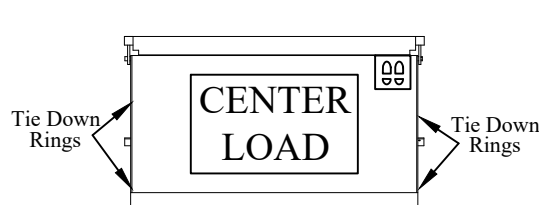

Figure 18: Step 12.
- Step 12. To load and use the railgate, center the load on the platform side to side and front to back (Figure 18). Put heavier loads as close to the front of the platform as possible (near truck). Platform cart stops may be actuated at this time, if equipped. Tie down rings are provided to help secure the load.
- Stand in the area indicated by the footprints in the figure below (Figure 18), keeping hands and feet away from the edges and any moving parts.